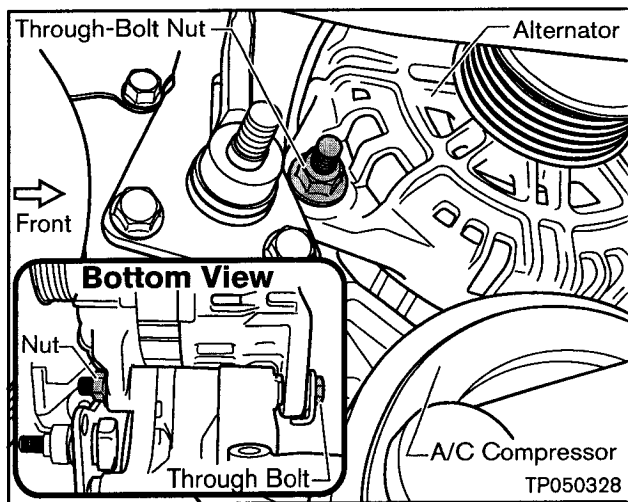

Figure 10a
8. Remove the alternator "Through Bolt Nut" and Through Bolt (see Figure 10a).